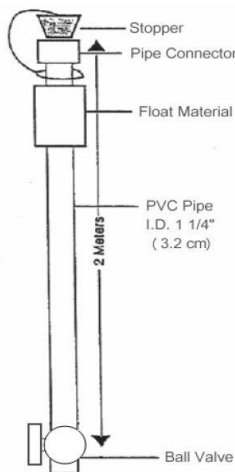

Figure 4. Integrated depth sampler diagram.
3. Remove the rubber stopper cap and open the ball valve on the bottom end of the integrated sampler (Figure 4). On the opposite side of the boat you plan to collect the sample from, rinse the integrated sampler by submerging the sampler in the lake three times and draining.